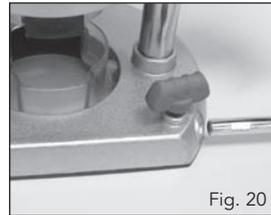

Fig. 20
1. To use the circular template guide (12), insert a guide fence rod (8) with the circular template guide (12) attached into the holes, either side of the base plate of the router (Fig.20).